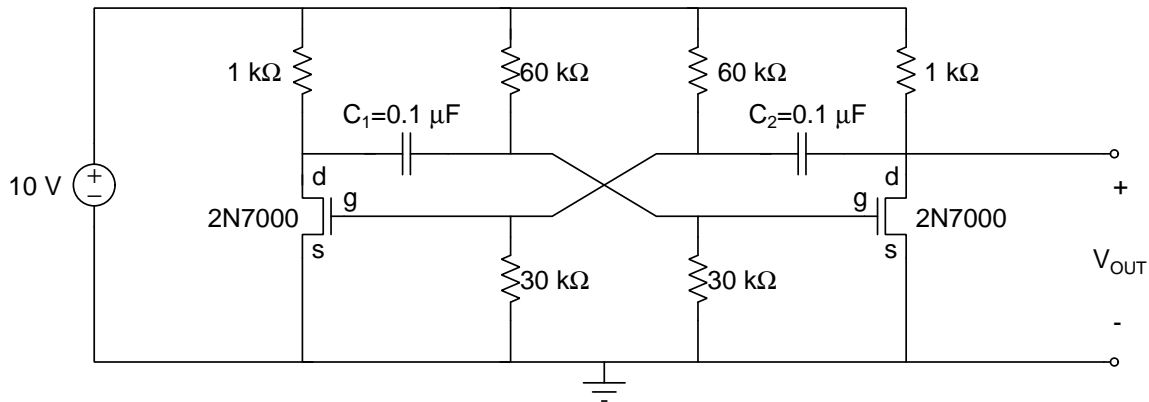
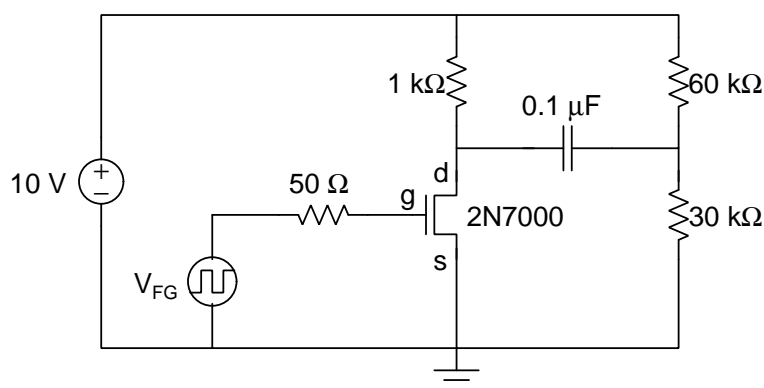

Figure 2: Astable multivibrator circuit of Figure 1 with 2N7000 transistors used as voltage-controlled switches.
Figure 3: Multivibrator half-circuit.
Simulate the operation of the astable multivibrator circuit. Use 2N7000 NMOS transistors as voltage controlled switches as shown in **Figure 2**. In NGspice, use the **2N7000\_mod** symbol as the transistor model.
1. Build the multivibrator half-circuit shown in Figure 3.
2. Set the function generator to produce a triangular wave with a voltage from 0 to 5 volts and a frequency equal to that found in step 5 of the Pre-Lab. Use the scope to record the voltage at the gate (G) and the drain (D) of the 2N7000 transistor. Determine the gate voltage that causes the transistor to turn-on and off. Try and find two transistors that have approximately the same switching voltage.
3. Build the full astable multivibrator circuit shown in Figure 2. This circuit should oscillate when power is supplied.